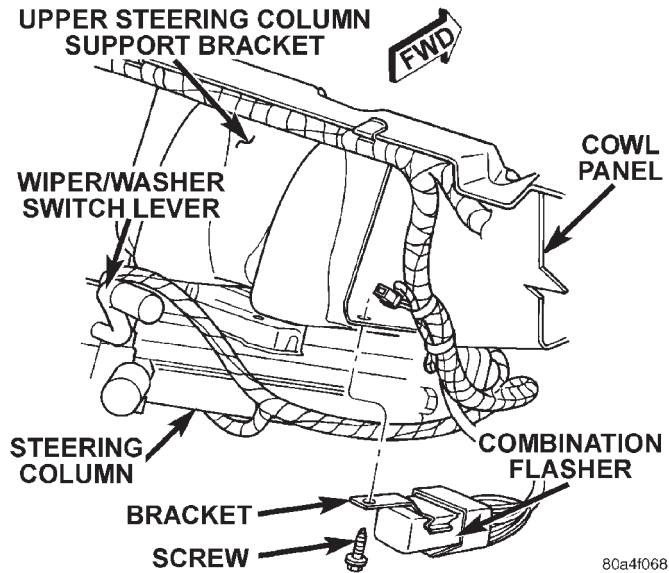

Fig. 4 Combination Flasher Remove/Install
(3) Reach through the inboard side of the instrument panel steering column opening to access and remove the screw that secures the combination flasher bracket to the upper steering column mounting bracket to the right of the steering column (Fig. 4).